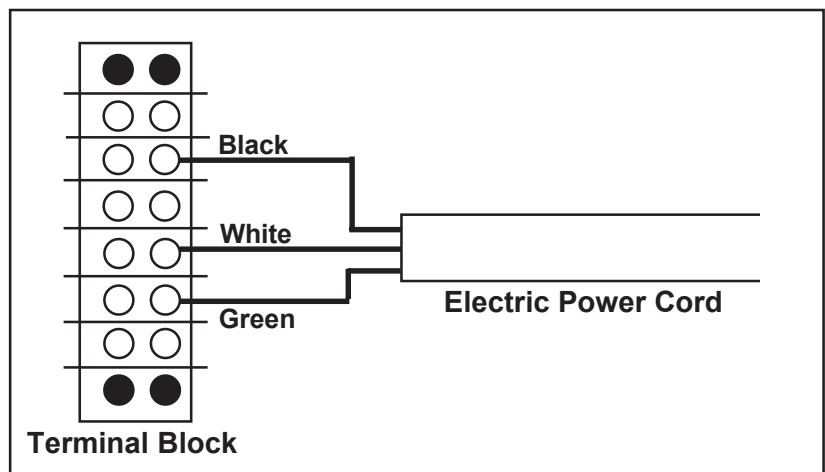

Figure 27. Electric Power Cord Wire Connections
5. Connect the three wires to the terminal block as shown in Figure 27.